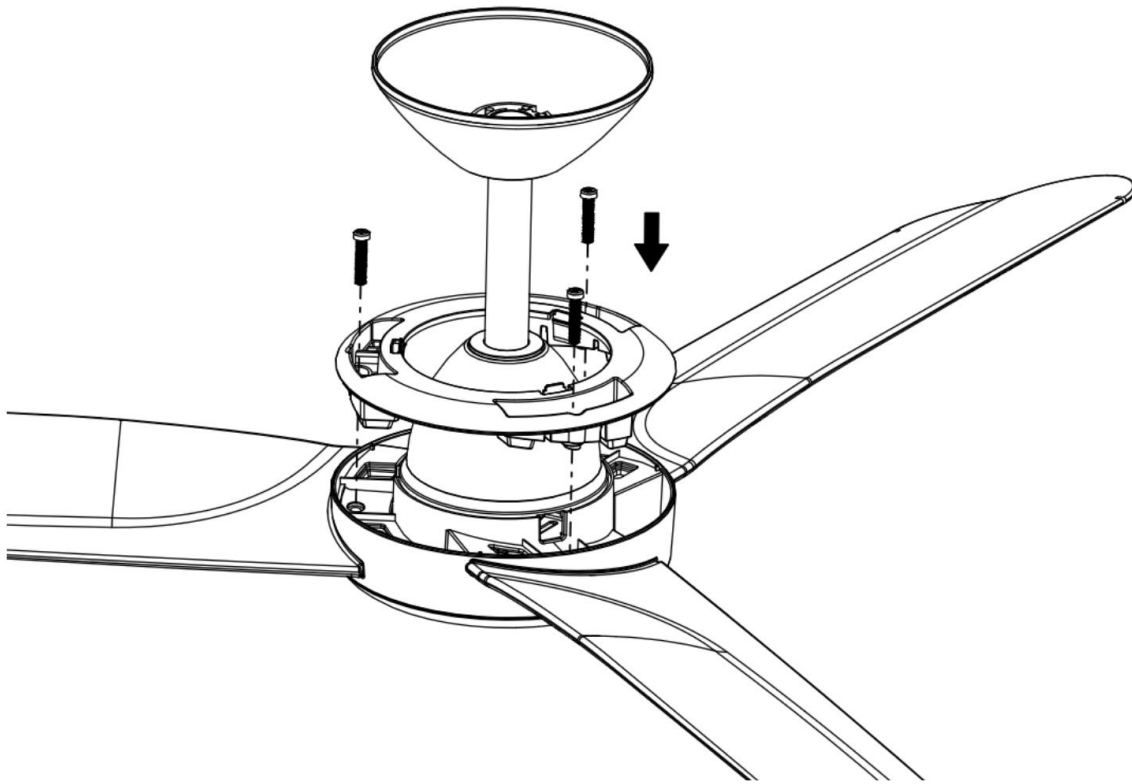

Fig. 4.3
3. Install the cover back to the motor assembly by tightening the 3 screws. (Fig.4.3)